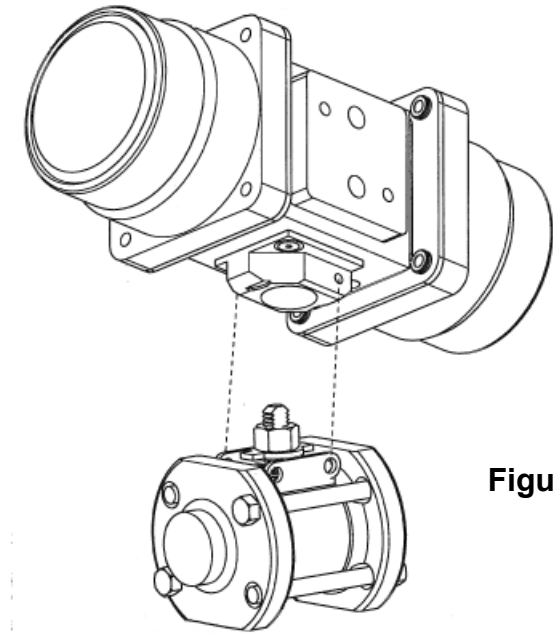

Figure 4
2. Place the actuator, with the bracket attached, atop the valve so that the 12 point socket engages the stem nut, the shaft notch engages the drive-key and locator screws straddle the valve body hex (see Figure 4).